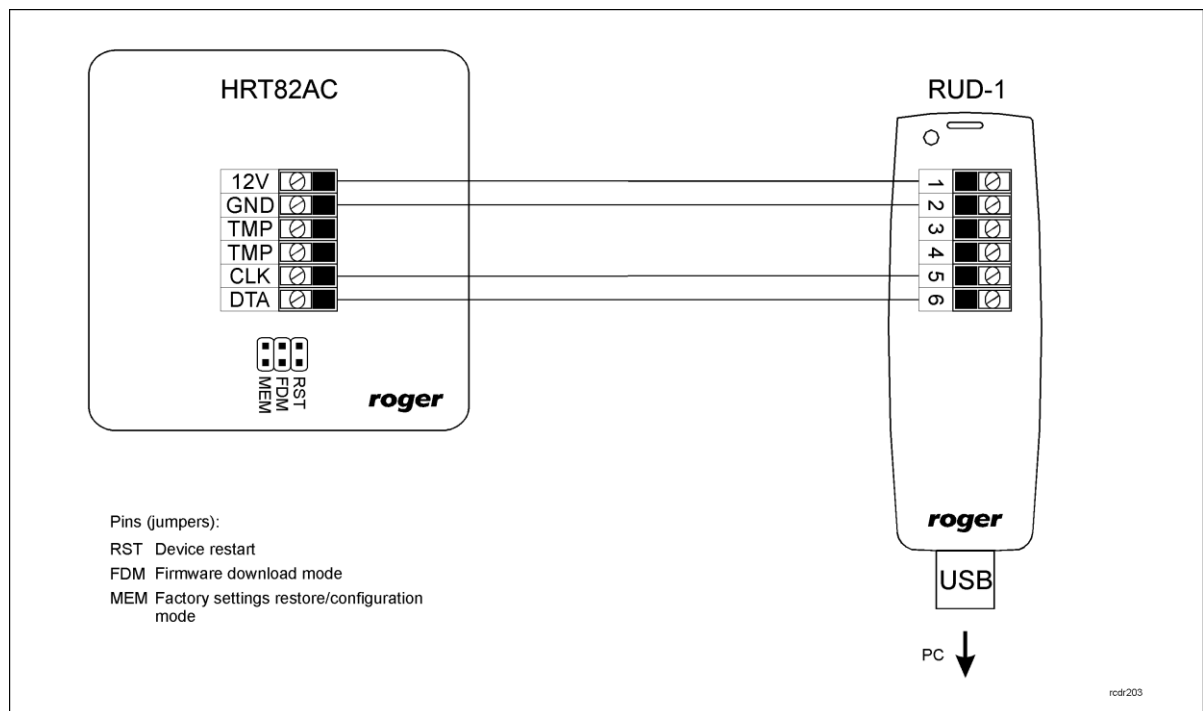

Fig. 6 HRT82AC and RUD-1 connection
1. Connect device to RUD-1 communication interface according to fig. 6